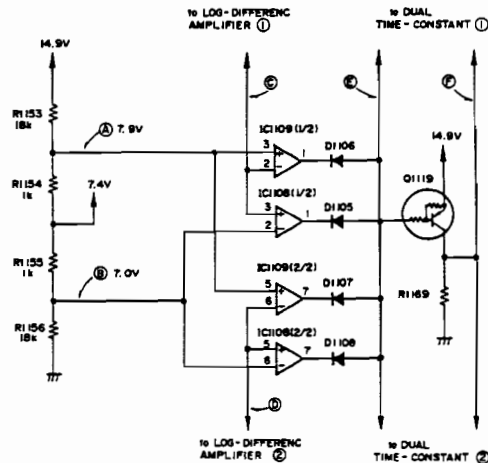

Figure 10-4. Threshold switch
4. Observes DC voltage of ① and ② of the LOG-difference amplifier output at the points ③ and ④ of the threshold switch (see Figure 10-4). When the DC voltage value becomes 7.8V and larger or 7.0V and less, ⑤ of the threshold switch will be set to "L" (approx. 0.6V) and ⑥ will be set to "H" (approx. 14V). The threshold voltage 7.8V and 7.0V which set ⑤ to "L" and ⑥ to "H" are decided by the reference voltage indicated in ⑦ and ⑧ of Figure 10-4.